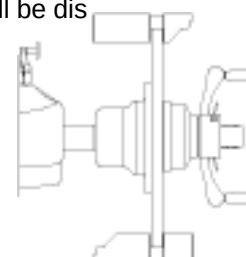

Figure 3-6
- Mount the Pruefrotor on the balancer and perform a measuring run. A number “2” will be displayed to indicate the step number. (Figure 3-6)